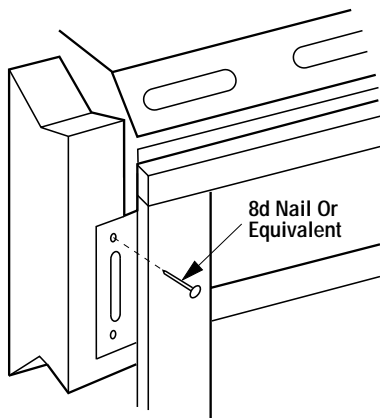

Figure 17
Step 4. Fireplace should be secured to side framing members using the nailing tabs at the top and bottom of the fireplace front face. Use 8d nails or equivalent (*Figure 17*).